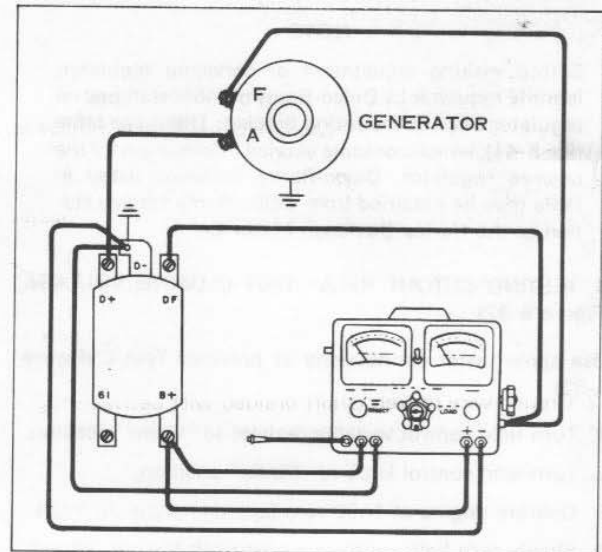

Figure 5-35.
E. TESTING VOLTAGE CONTROL UNIT SETTING (Figure 5-35)